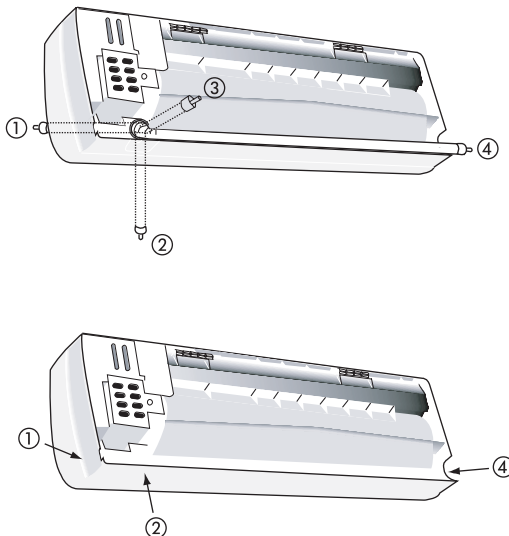
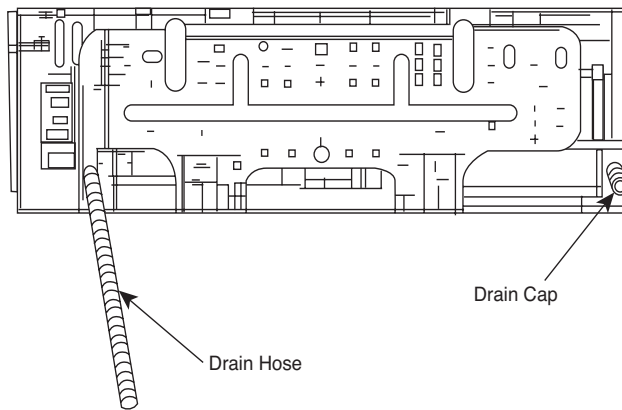

Fig. 4 — Indoor Unit Piping Configurations
Fig. 8 — Location of Drain Hose and Cap
Before mounting the 619ENF,ENQ unit on the wall with a wall hanging bracket, consider how the unit will be connected to the refrigerant piping. The indoor unit can be connected in four ways. Refer to Fig. 4 for connection options. When the piping is connected to points 1, 2 or 4, remove the knockout either at the side or at the bottom of the unit.
When running the piping for indoor units the piping can be connected as rear piping or side or bottom piping. Refer to Fig. 4.
The drain hose and drain cap are assembled as shown in Fig. 8 in the factory. To do right-side (①), right-bottom (②) or right-back (③) piping in Fig. 4 draw the drain hose to right-side piping direction. (It is not always necessary to exchange the location of drain hose and drain cap.)